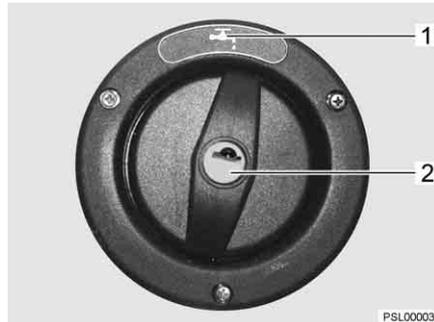

Fig. 188 Drinking water filler neck
The drinking water filler neck is indicated by the symbol "🔑" (Fig. 188,1). The cap is opened and closed using the key for the external flap locks.
- Insert key into locking cylinder (Fig. 188,2) and turn a quarter turn in an anticlockwise direction.
- Open drinking water filler neck (Fig. 188) (see chapter 6).